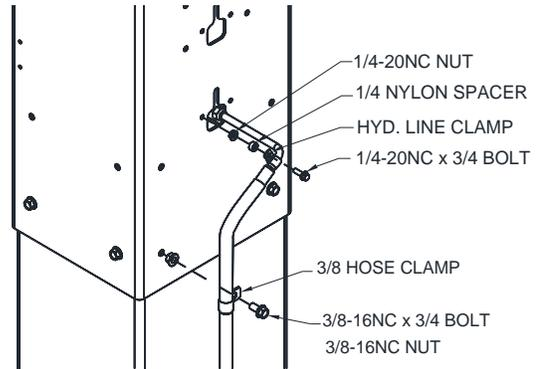

Fig. 14 – Power Unit Hose
- 30) Loosely attach power column hose and overhead hose using the tee fitting (*in hardware box*). Attach power unit hose to power side column extension as seen in Fig. 14. Connect power unit hose to tee, Fig. 13b, and remove slack from power column hose. Tighten loose fittings and clamps from previous step. Route overhead hose according to Fig. 13c.